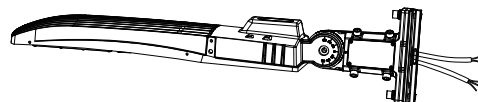

Figure 6
Step 2: Install the bracket on the fixture, then cover the side lid and tighten it . (Figure6)